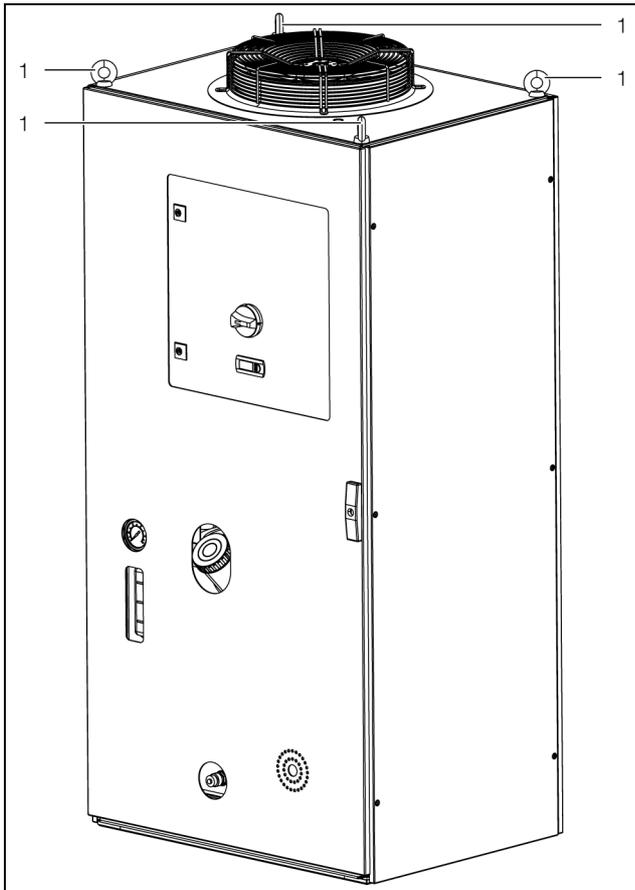
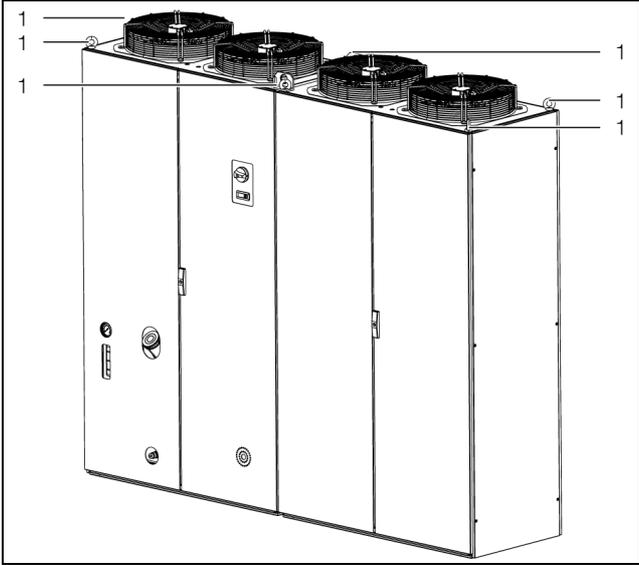

Fig. 19: Eyebolt for transportation (3335.790, 3335.830, 3335.840, 3335.850)
Fig. 22: Eyebolt for transportation (3335.890)
- Only transport the chiller on the pallet supplied with the chiller or with the eyebolts provided (fig. 19 to fig. 22, item 1).